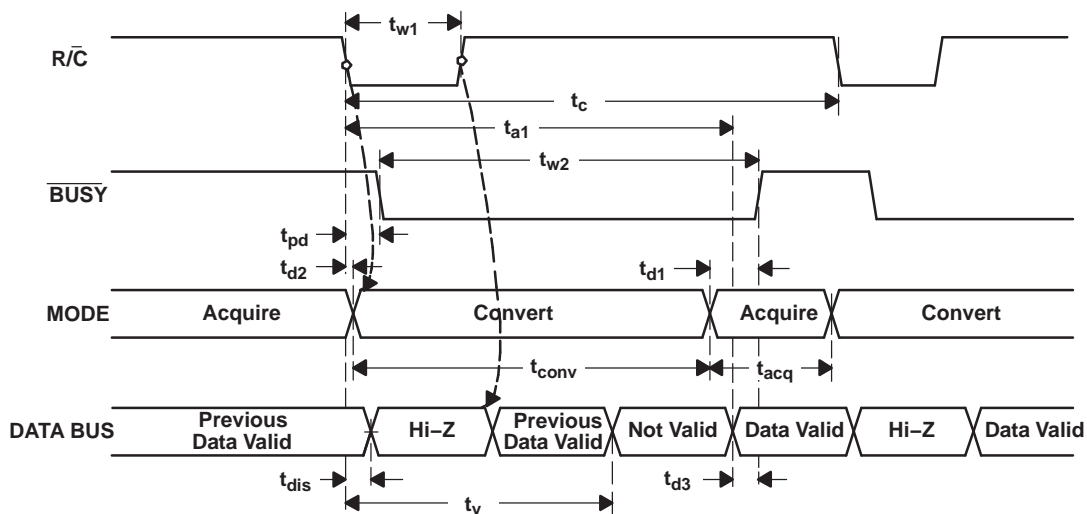
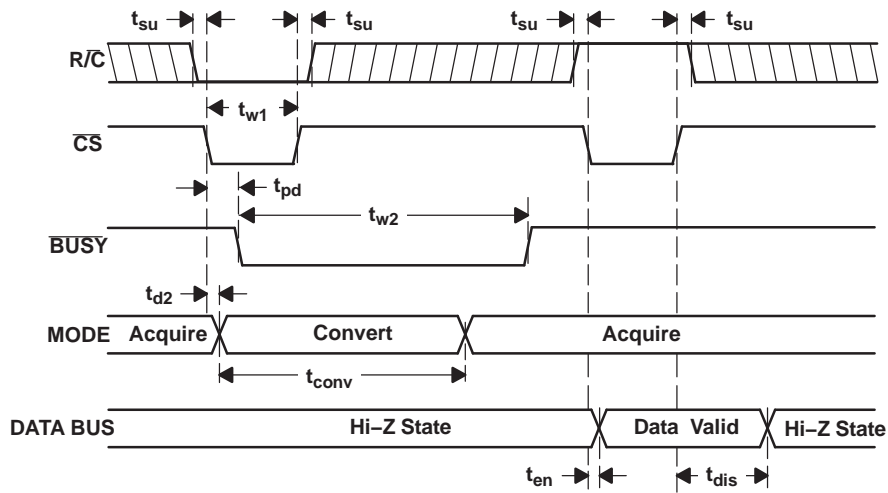
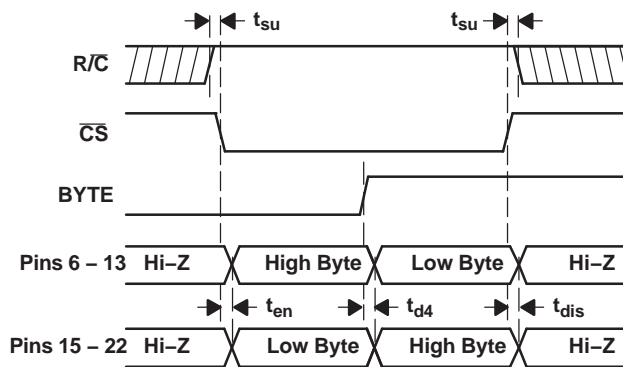

Figure 23. Conversion Timing with Outputs Enabled after Conversion (\overline{CS} Tied Low)
Figure 24. Using \overline{CS} to Control Conversion and Read Timing
Figure 25. Using \overline{CS} and \overline{BYTE} to Control Data Bus
The ADS8505 begins tracking the input signal at the end of the conversion. Allowing 4 μ s between convert commands assures accurate acquisition of a new signal. Refer to Table 1 for a summary of \overline{CS} , R/\overline{C} , and \overline{BUSY} states and Figure 23 through Figure 25 for the timing diagrams.
(1) See Figure 23 and Figure 24 for constraints on data valid from conversion $n-1$.
After conversion *n* is completed and the output registers have been updated, BUSY (pin 26) goes high. Valid data from conversion *n* is available on D15-D0 (pins 6-13 and 15-22). BUSY going high can be used to latch the data. Refer to Table 3, Figure 23, Figure 24, and Figure 25 for timing specifications.
After conversion *n* has been initiated, valid data from conversion *n-1* can be read and is valid up to *t*₂ (2.2 μs typ) after the start of conversion *n*. Do not attempt to read data from *t*₂ (2.2 μs typ) after the start of conversion *n* until BUSY (pin 26) goes high; this may result in reading invalid data. Refer to Table 3, Figure 23, Figure 24, and Figure 25 for timing specifications.
The number of control lines can be reduced by tying \overline{CS} low while using the falling edge of R/\overline{C} to initiate conversions and the rising edge of R/\overline{C} to activate the output mode of the converter. See Figure 23.